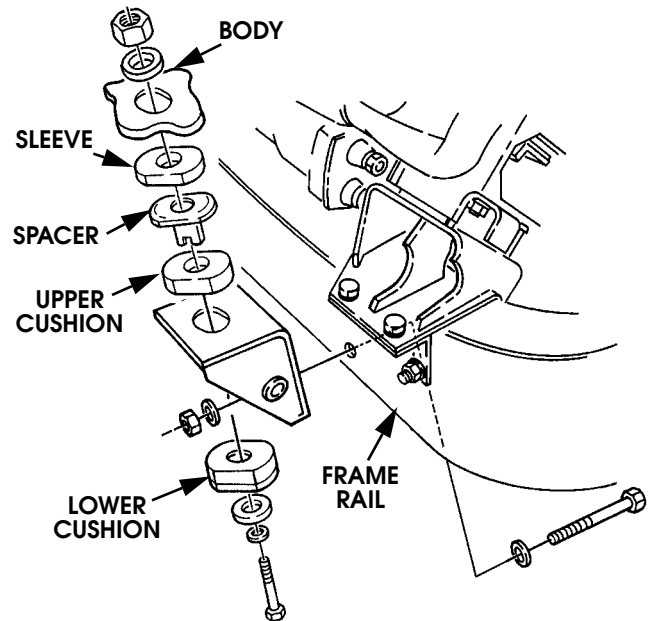

Figure 9-140: Right Front Body Mount Bracket Replacement
2. Remove three locknuts, washers, bolts, washers, and right front body mount bracket from frame rail (Figure 9-140).
1. Install right front body mount bracket on frame rail with three washers, bolts, washers, and locknuts. Tighten locknuts to 90 lb-ft (122 N•m) (Figure 9-140).